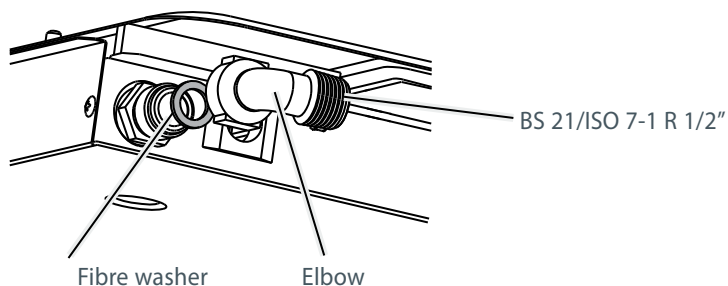
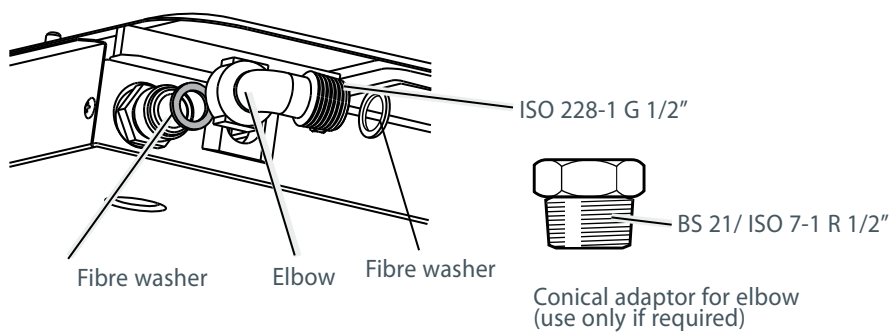

Fig.2a Gas connection to the cooktop:
Fig.2b Gas connection to the cooktop:
- In some countries, the supplied elbow has a 1/2" taper male thread (Fig. 2a). In other countries, the supplied elbow has a 1/2" parallel male thread and a conical adaptor (1/2" taper male thread) may be supplied as well (Fig.2b).
- Ensure the fibre washer (supplied) is located between the elbow (supplied) and cooktop gas inlet (Figs. 2a and 2b). Failure to use this washer will cause the connection to leak. Tighten the floating nut to firm finger tight, plus an additional ¼ turn (90°).